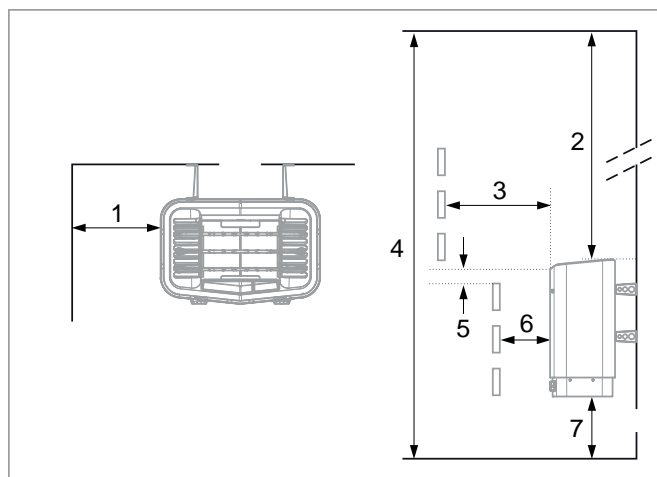

Figure 2: Positioning the heater - normal installation
- At a safe distance from the floor, side walls and interior fittings (see Figure 2, Page 1).